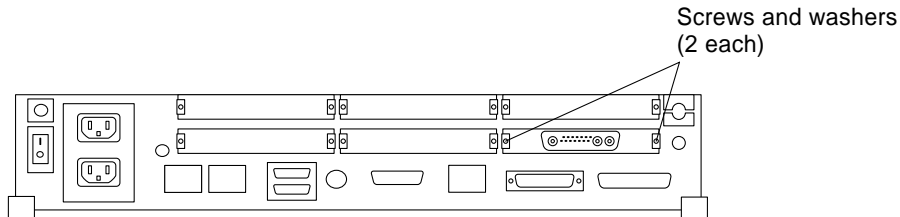

FIGURE 10-2 Rear Panel—Screws and Washers
7. Remove the screws and washers from the outside of the rear panel where the SBus card is fastened. See FIGURE 10-2.